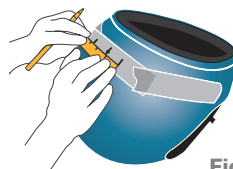

Figure 3
- 2 On the masking tape at the back of the helmet, mark three points 1.5" (43mm) above the rubber molding and spaced about a half inch apart. Connect the dots to create a horizontal line. **See Figure 3**